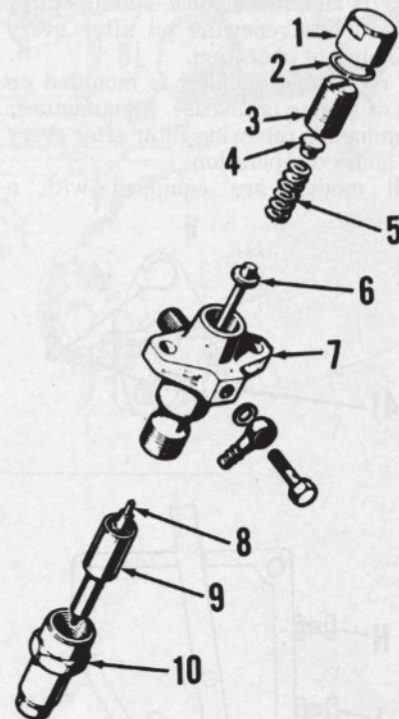

Fig. L5-6—Exploded view of injector.
Opening pressure with a new spring (5—Fig. L5-6) should be 21.6-22.5 MPa while opening pressure with a used spring should be 20.6-21.6 MPa. Opening pressure is adjusted by turning adjuster (3). Valve should not show leakage at orifice spray holes for 10 seconds at 19.1 MPa.
OVERHAUL. Refer to exploded view in Fig. L5-6 and disassemble injector. Thoroughly clean all parts in a suitable solvent. Clean inside orifice end of nozzle tip with a wooden cleaning stick. The orifice spray holes may be cleaned by inserting a 0.28 mm cleaning wire. When reassembling injector, make certain all components are clean and wet with clean diesel fuel oil. Tighten nozzle nut (10) to 49 N·m.